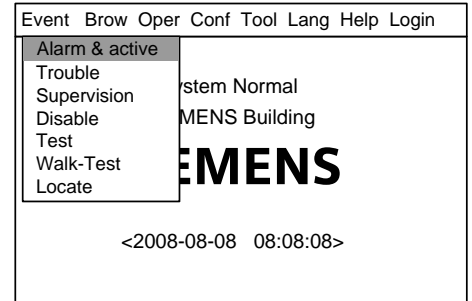

Fig.32-1
1. Press “Menu” to browse the main menu (Fig. 32-1).